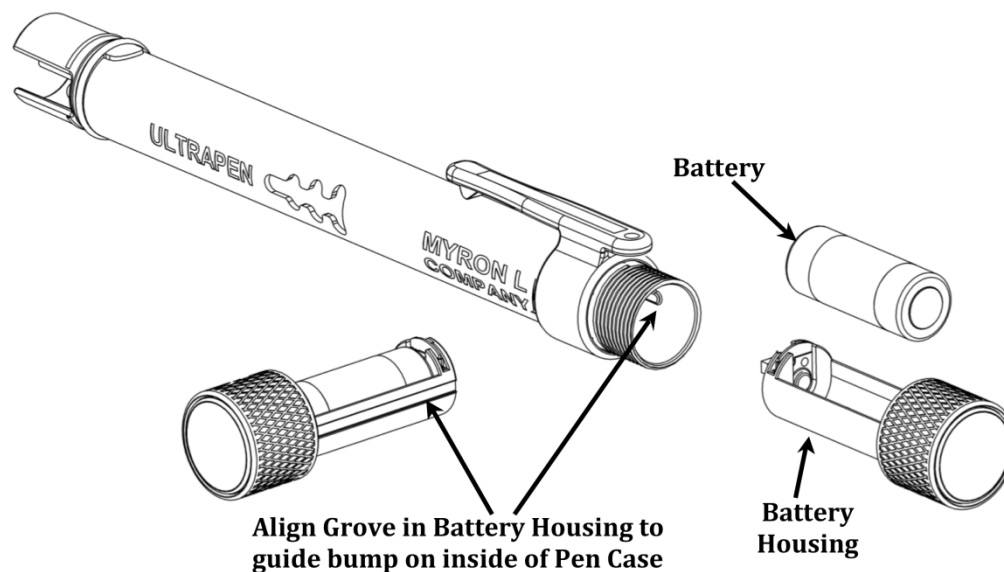

Figure 38
1. In a CLEAN DRY place unscrew the ULTRAPEN cap in a counter-clockwise motion (see Figure 38).